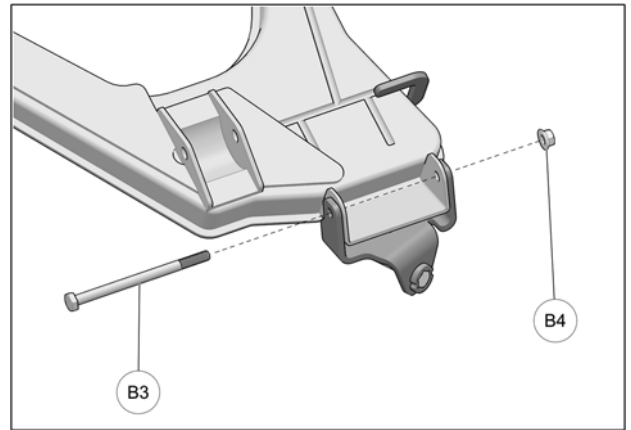

Fig. 8
8. Insert the new M10x150mm bolt (B3) through anchor bracket, suspension arm and wheel knuckle. Secure assembly with the provided M10 nut (B4). Torque nut to 50 N•m [37 lb•ft]. See Fig. 8